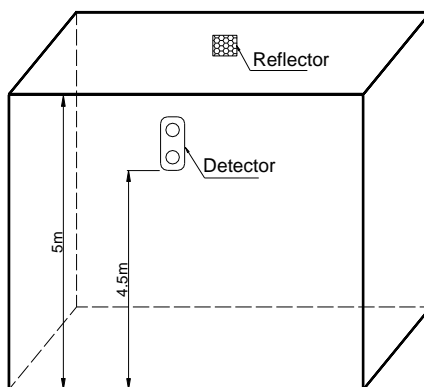

Fig. 4
- When space height is not over 5m, the detector and reflector should be mounted on the two facing walls 0.5m from the ceiling, as shown in Fig. 4.